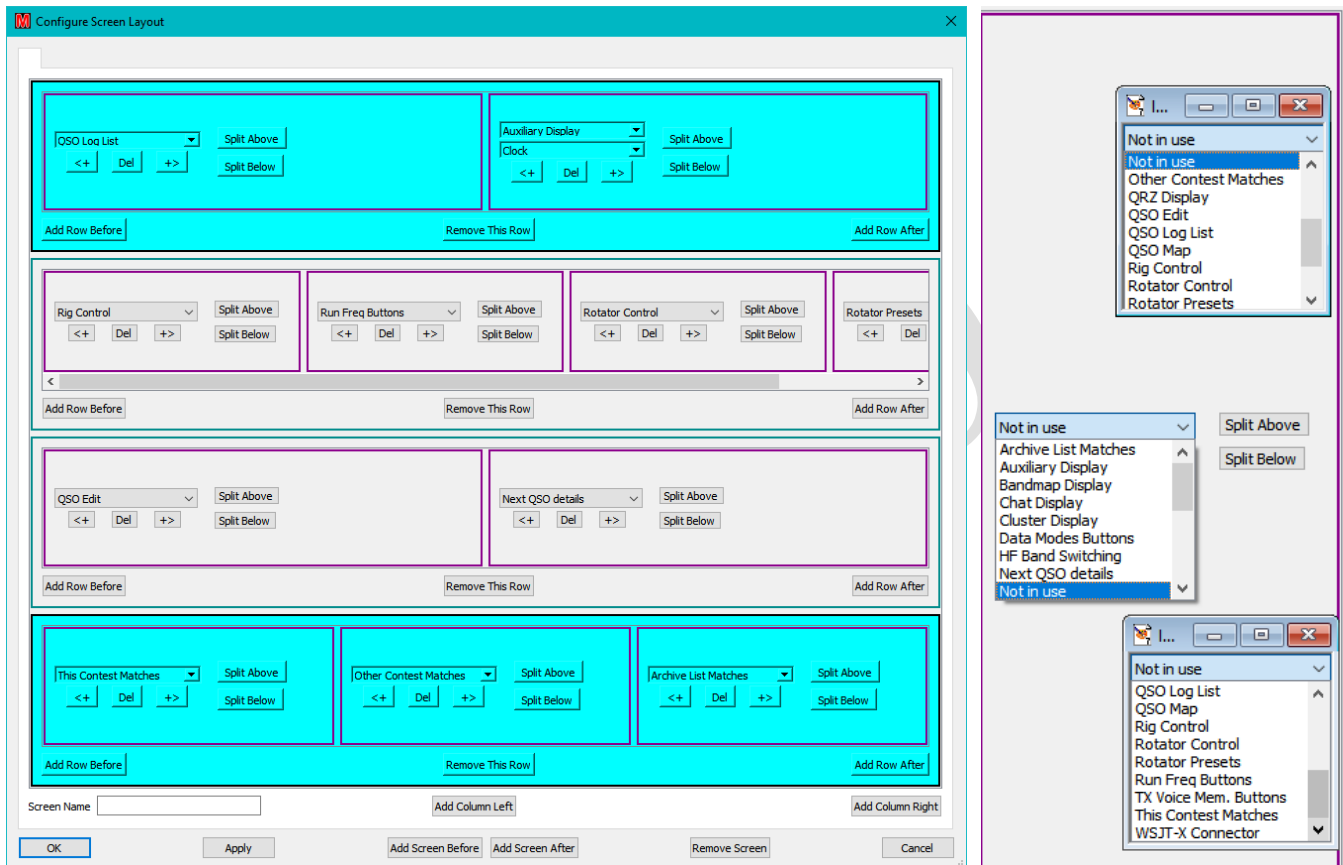

Figure 61 – Add column to left/right
- “**Add Column Left/Right**” is typically used for the Bandmap Display⁵⁷ (Figure 61 right), although other panels may be configured. The extent of the column is marked using the CTRL key (Figure 61 left) and clicking to select the top and bottom rows, then clicking the requisite button⁵⁸.